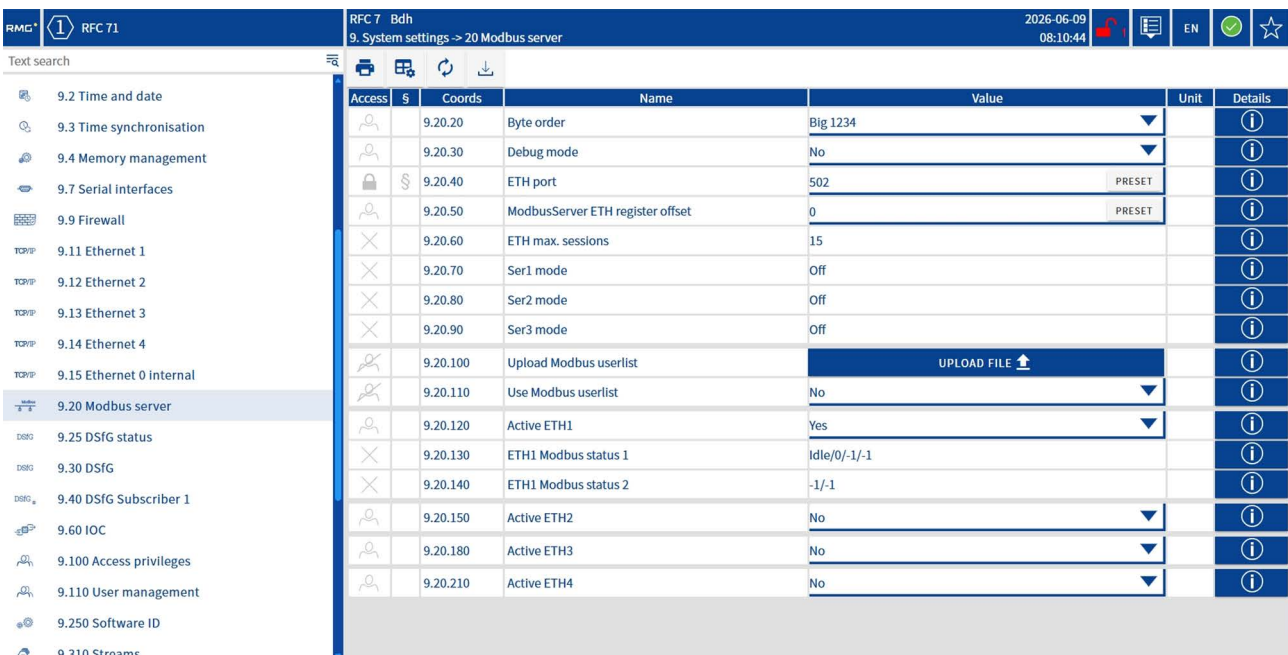

Fig. 110: Menu page 9.20 Modbus server
- ▶ Navigate to the menu page **9.20 Modbus server** (see fig. 110).